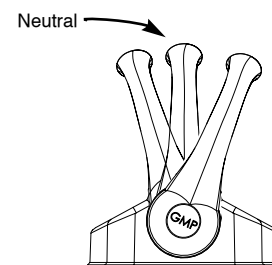

Fig. 2
2. Move one control handle out of NEUTRAL position at the main station (see Fig. 2).